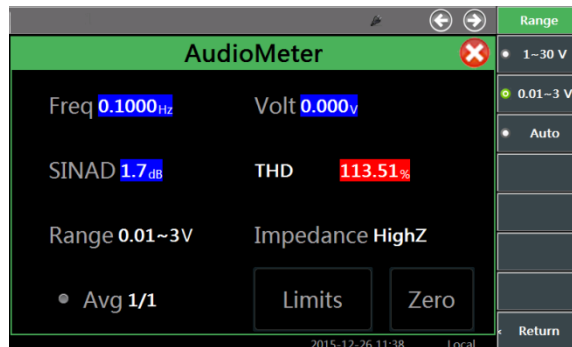

Fig. 4-30 Range Setting
- Measurement setting: select the appropriate input impedance and range, click “easure on the touch screen or the [Range] soft key in the right menu, and set the range as shown in Fig. 4-30.
- ✧ Refer to Fig. 4-30 and 4-31 for external audio setting, and Fig. 4-9 for demodulation setting.